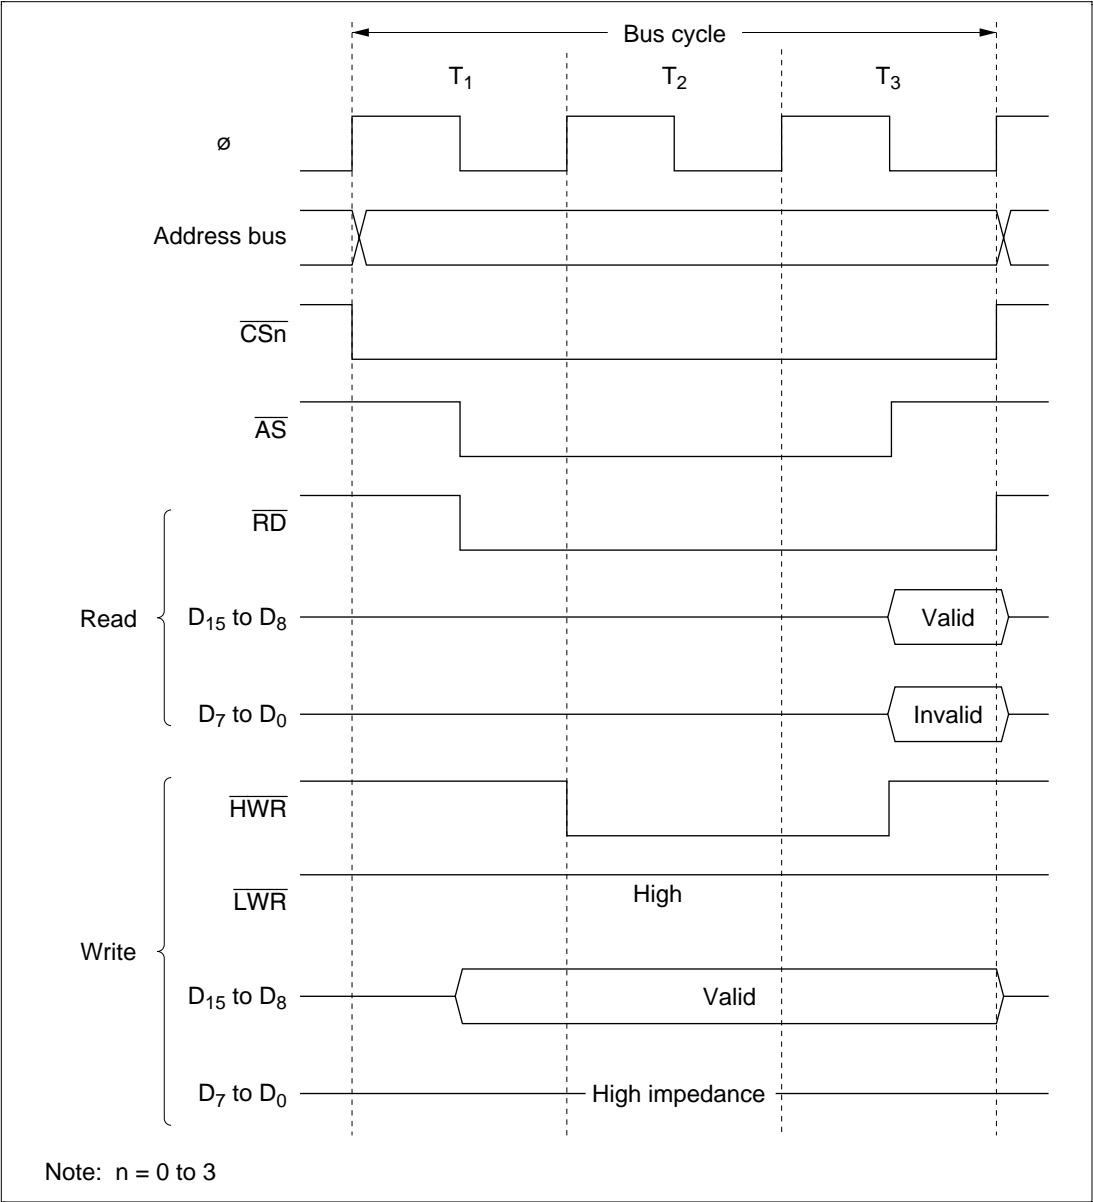

Figure 6-7 Bus Timing for 8-Bit 3-State Access Space
(2) **8-Bit 3-State Access Space:** Figure 6-7 shows the bus timing for an 8-bit 3-state access space. When an 8-bit access space is accessed, the upper half (D_{15} to D_8) of the data bus is used.